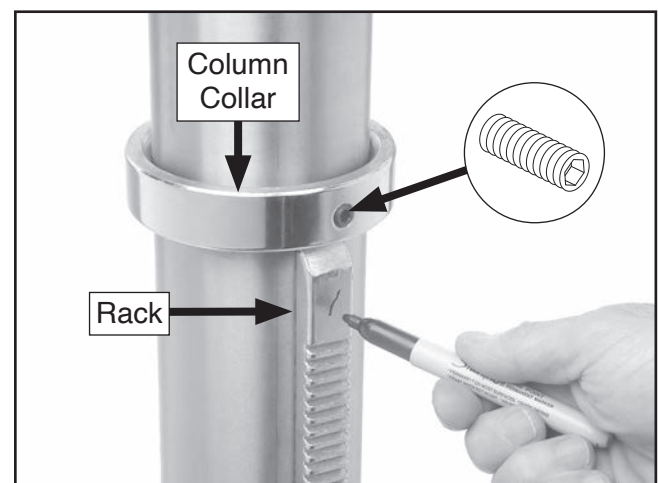

Figure 14. Example of marking top of rack.
2. Mark top of rack, as shown in **Figure 14**, to keep track of which end is up.
3. Loosen set screw shown in **Figure 14** to remove column collar.